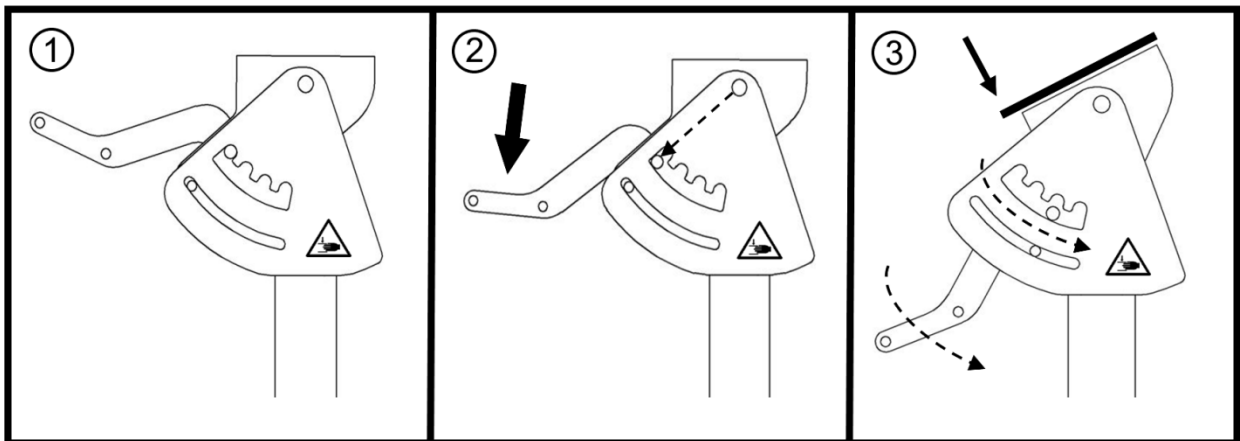

Figure 13 Dispenser Head Angle Adjustment
1. Position the **X-Fill Pro (EO) Dispenser head** (Figure 13, 1) on the head angle adjuster (3) by sliding the head into the angle adjuster from the back.
2. Attach the **Dispenser head** (1) to the angle adjuster (3) by using a 5mm hex key and the four hex head screws (2).
7. Place the **Paper Bundle** in the **Bundle Holder** (refer to Figure 13).
10. Insert the folded arrow of paper sheets into the **Dispenser Input Chute** (refer to Figure 13).
11. Push the folded arrow of paper sheets towards the **Dispenser Feeding Wheels** (refer to Figure 13).
14. Release the **Feed-in Button** on the **Dispenser Control Box** as soon as the string of paper void fill is visible at the **Dispenser Output Chute** (refer to Figure 13).